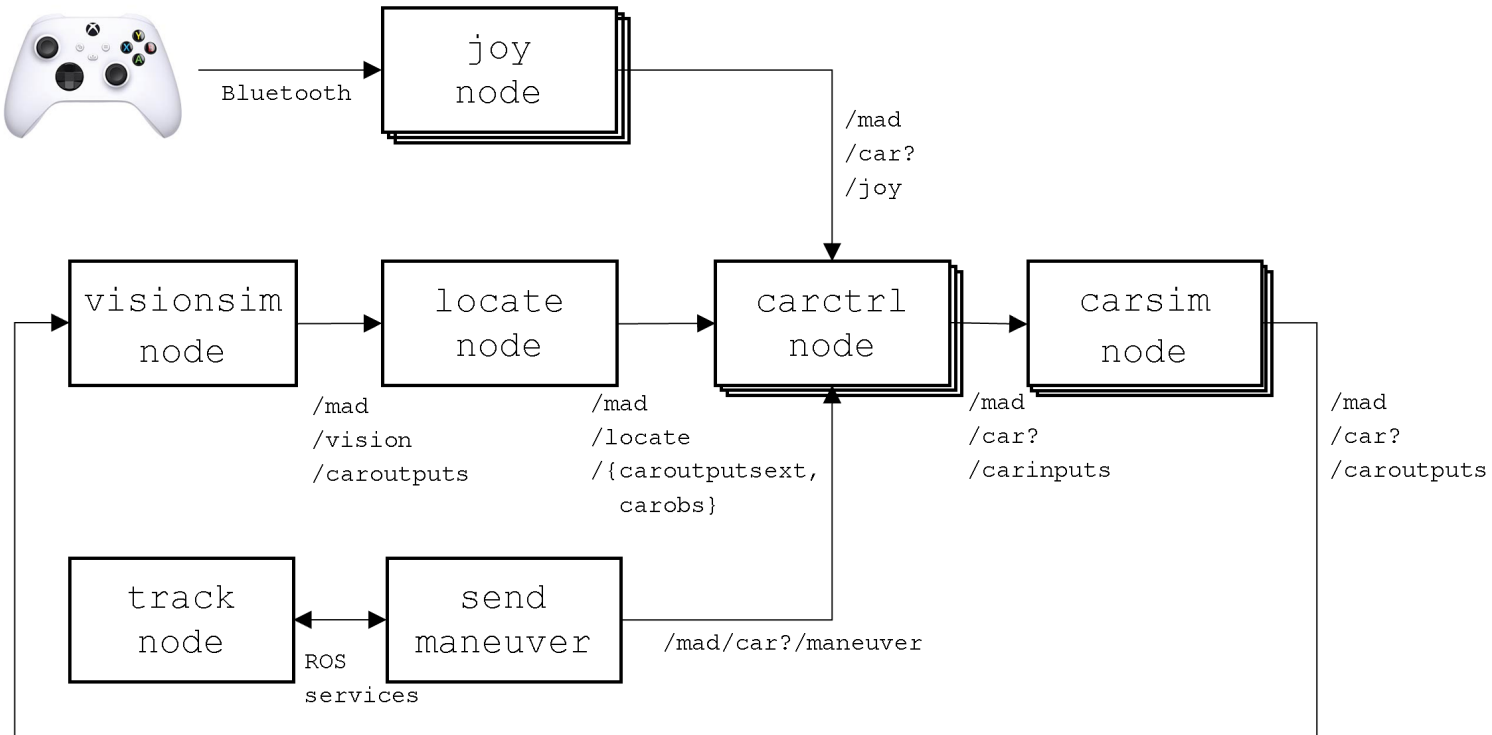

Figure 2: ROS2 nodes in SiL simulation mode
- Simulink simulates `c71_car0_template.slx` as a ROS2 node replacing the ROS2 node `carctrlnode` in Figure 2
- All other ROS2 nodes of Figure 2 run as usual